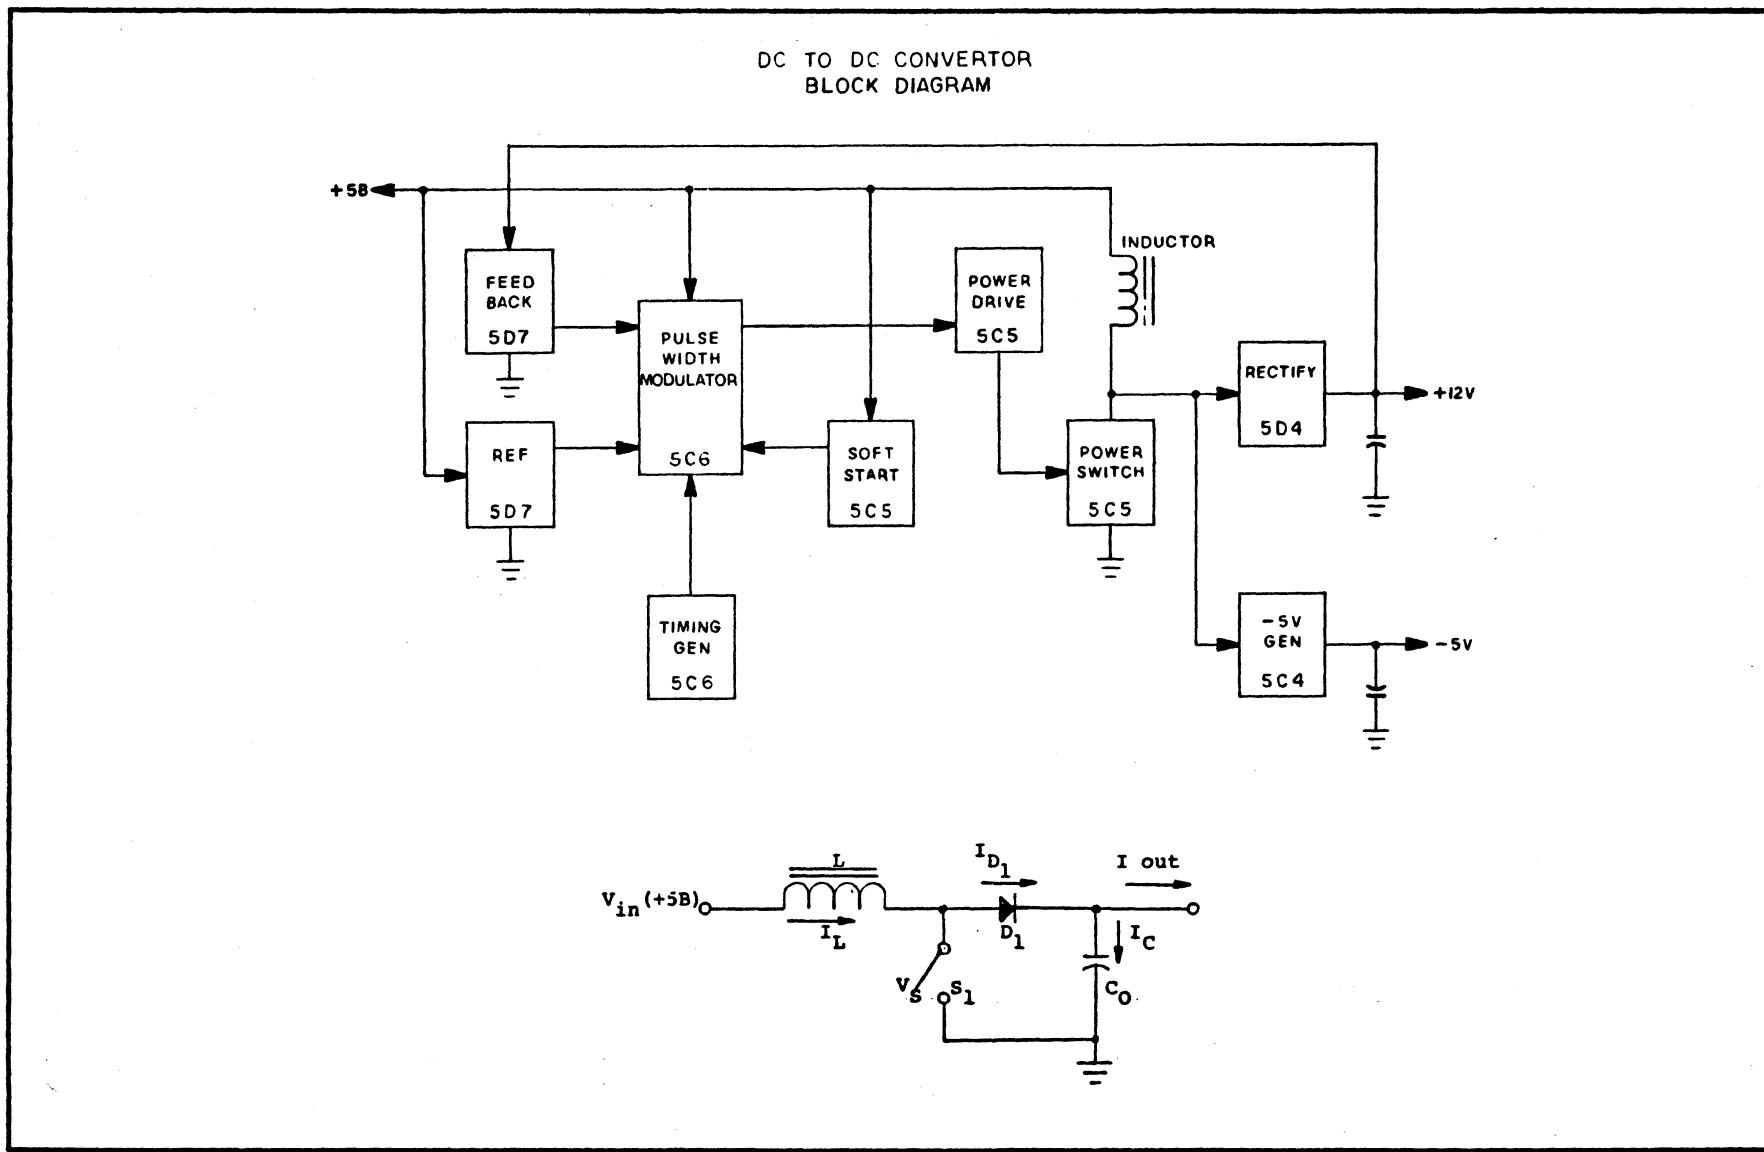

FIGURE 3.6
3.8 DC-TO-DC CONVERTOR (FIGURE 3-6)
The NS11L employs a DC-to-DC convertor switching regulator that operates as flyback convertor in a step-up mode. The basic circuit is shown in Figure 3.6.
In figure 3-6, the designations correspond to schematic reference designations as follows: L=L1, S₁=Q2 thru Q5, D1=CR5, CR6, C0=all capacitance on +12V line.